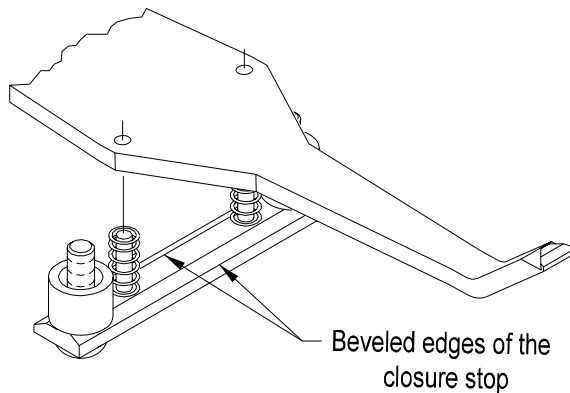

Figure 3.4
2. Be sure the beveled edges of the mount are against the closure stop (Figure 3.4).